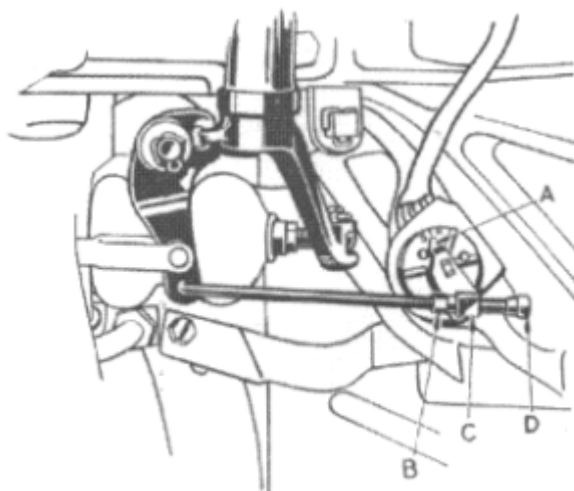

Figure 5
After the transmission is shifted from low to high or second gear, the pointer (A) (Figure 5) on the interlock switch lever should come to rest in line with the mark between the letters S and H on the switch cover. To adjust loosen the jam nut (D) on the front end of the interlock switch rod and turn the adjusting sleeve (B) then retighten the jam nut